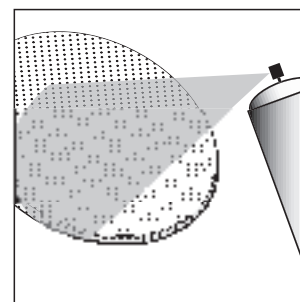

FIGURE 9
4. After removing the grille by carefully hooking it with a bent paper clip and pulling it gently away from the frame, spray on two thin coats of finish color. If you're using a compressor and spray gun, use the finest, most diffuse setting. Be careful not to fill the holes in the grille with paint [figure 9].